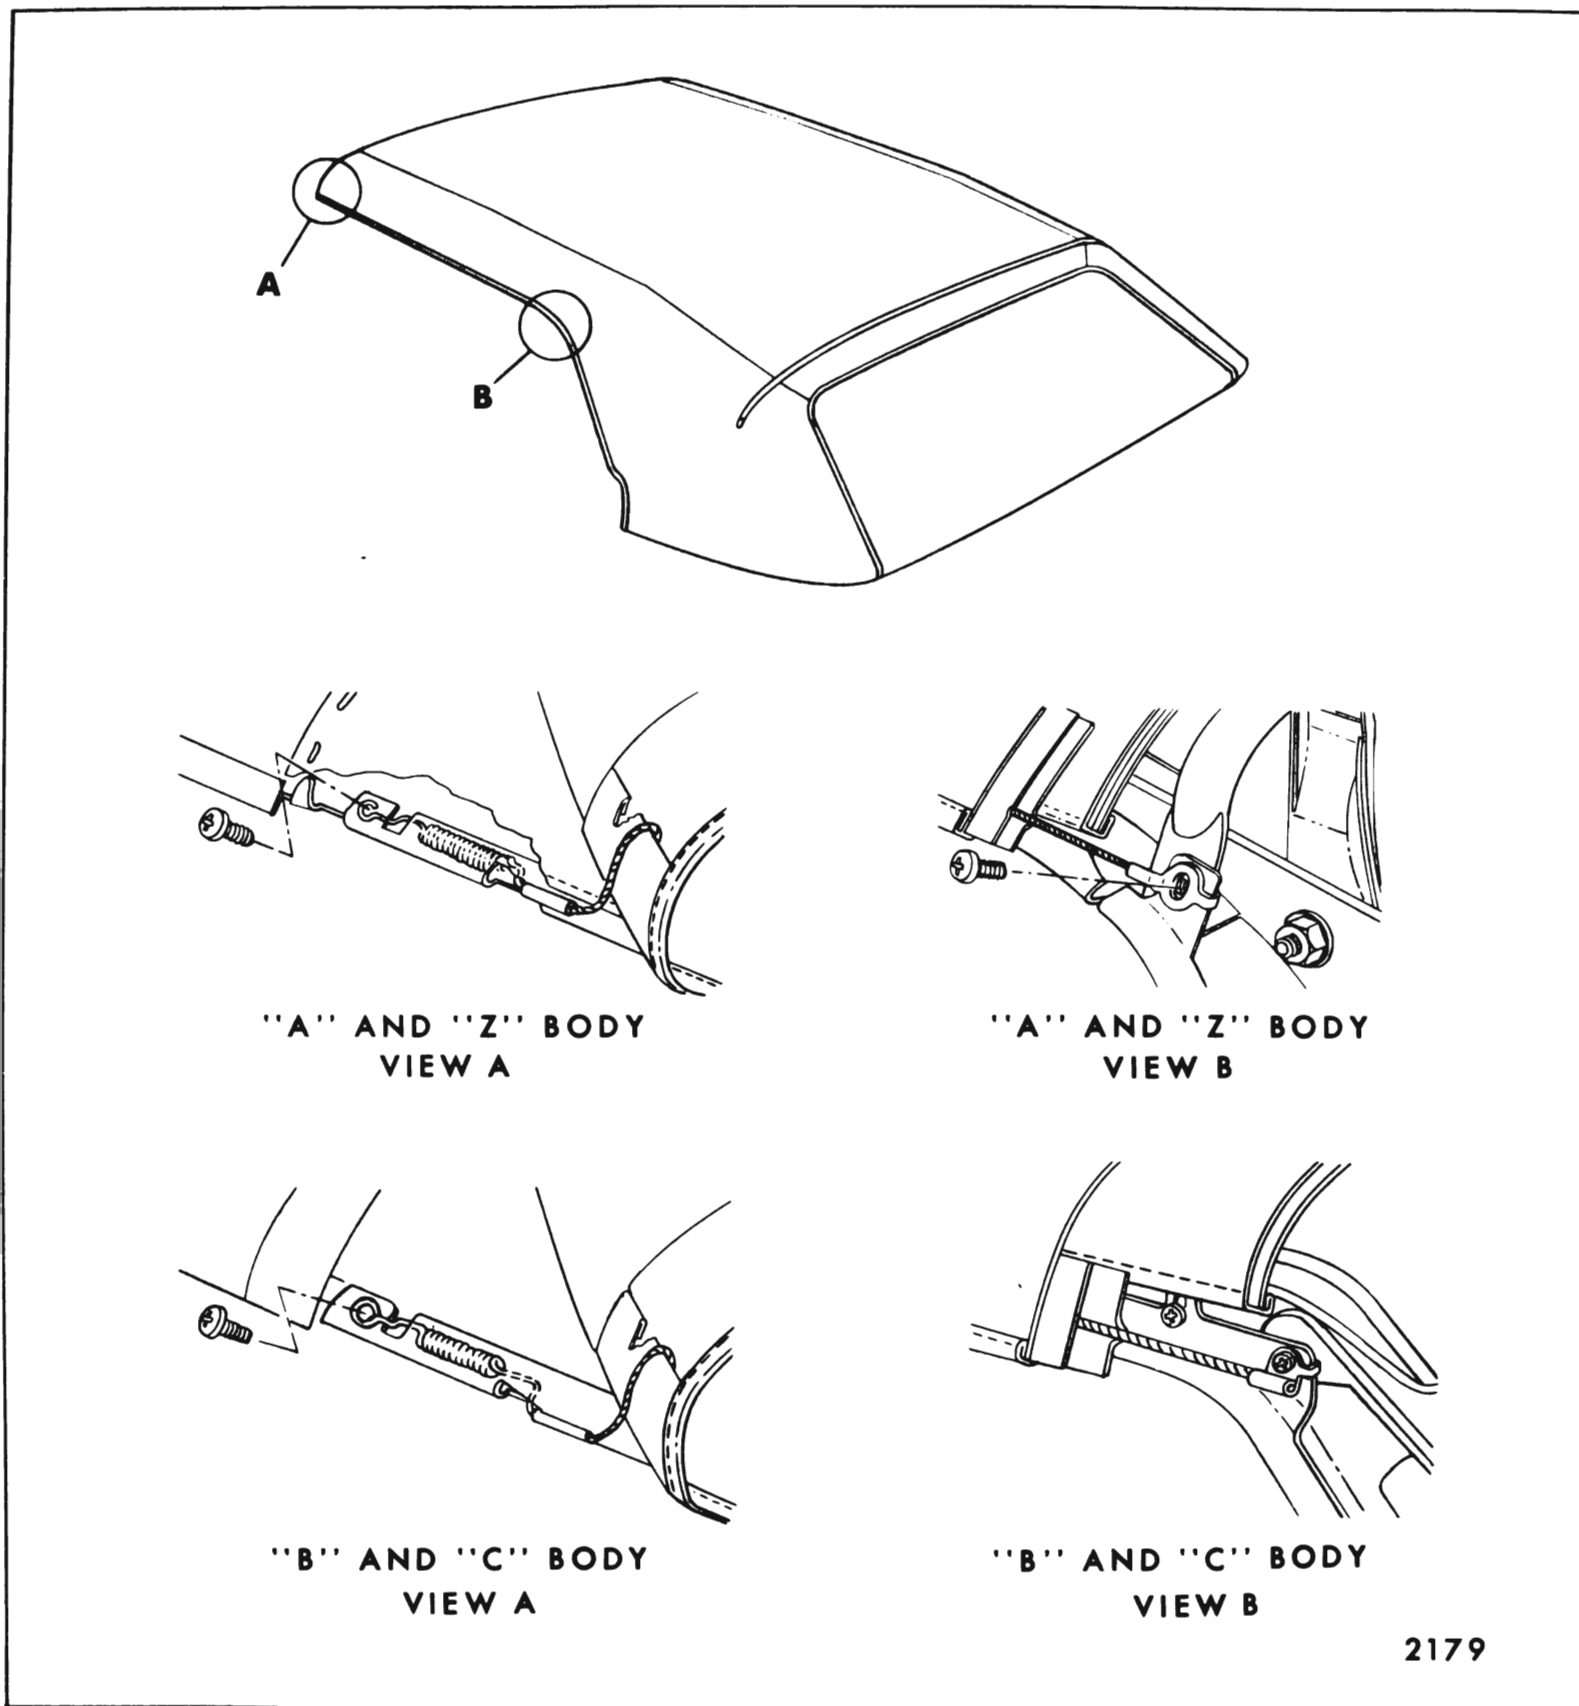

Fig. 6-31—Convertible Top Material Hold Down Cable
12. At right and left side roof front and rear rails, remove hold-down cable front and rear attaching screws. (See views "A and B" in Fig. 6-31).
14. After cables have been inserted in hold-down pockets in top material, securely install front and rear cable attaching brackets to side roof front and rear rails (Fig. 6-31).